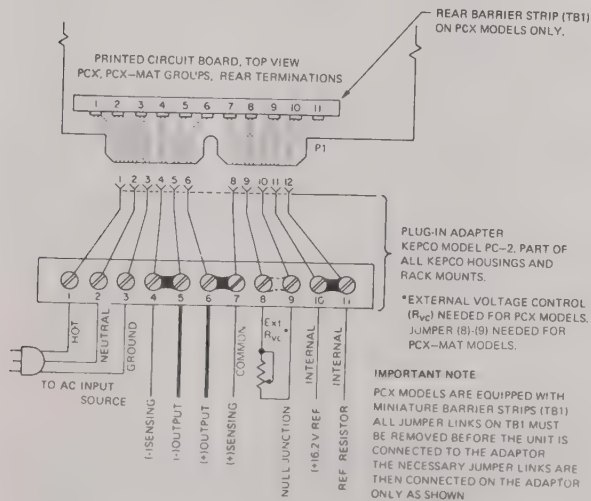

FIG. 2-2 REAR TERMINATIONS, PCX AND PCX–MAT GROUPS
- REAR: Refer to FIG. 2-2.
- b) PCX-MAT MODELS. Connect to mating device (either one of the accessories described in paragraph 1-8) and to AC input power. Turn AC POWER SWITCH "on". (Refer to FIG. 2-2 for the location of the front panel controls.) AC POWER INDICATOR light (part of AC POWER SWITCH) should energize. Turn VOLTAGE